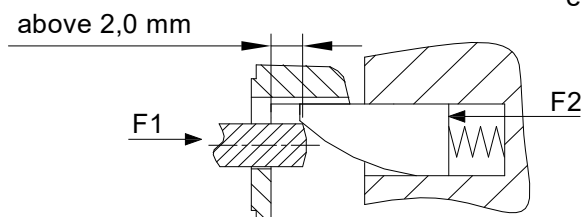
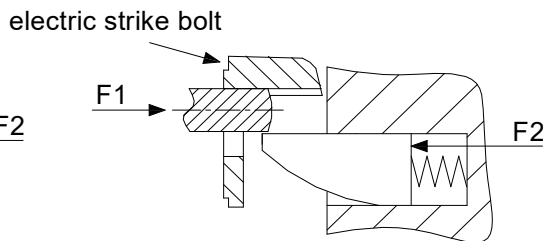

Fig. 3 Memory pin protruding too far
Fig. 4 Inappropriate cooperation of memory pin with door lock tab
- ✓ The "memory" will not work, when the memory pin is not pressed down sufficiently (above 2.0 mm) despite being pressed by the door lock tab (Fig. 3), or when the door lock tab is not in contact with the memory pin (Fig. 4).
5. Carefully adjust door clearance using bolt tab (avoiding maximum protrusion), as incorrect adjustment of the door clearance may result in wrong setting of the door lock tab and the memory pin (Fig. 4).